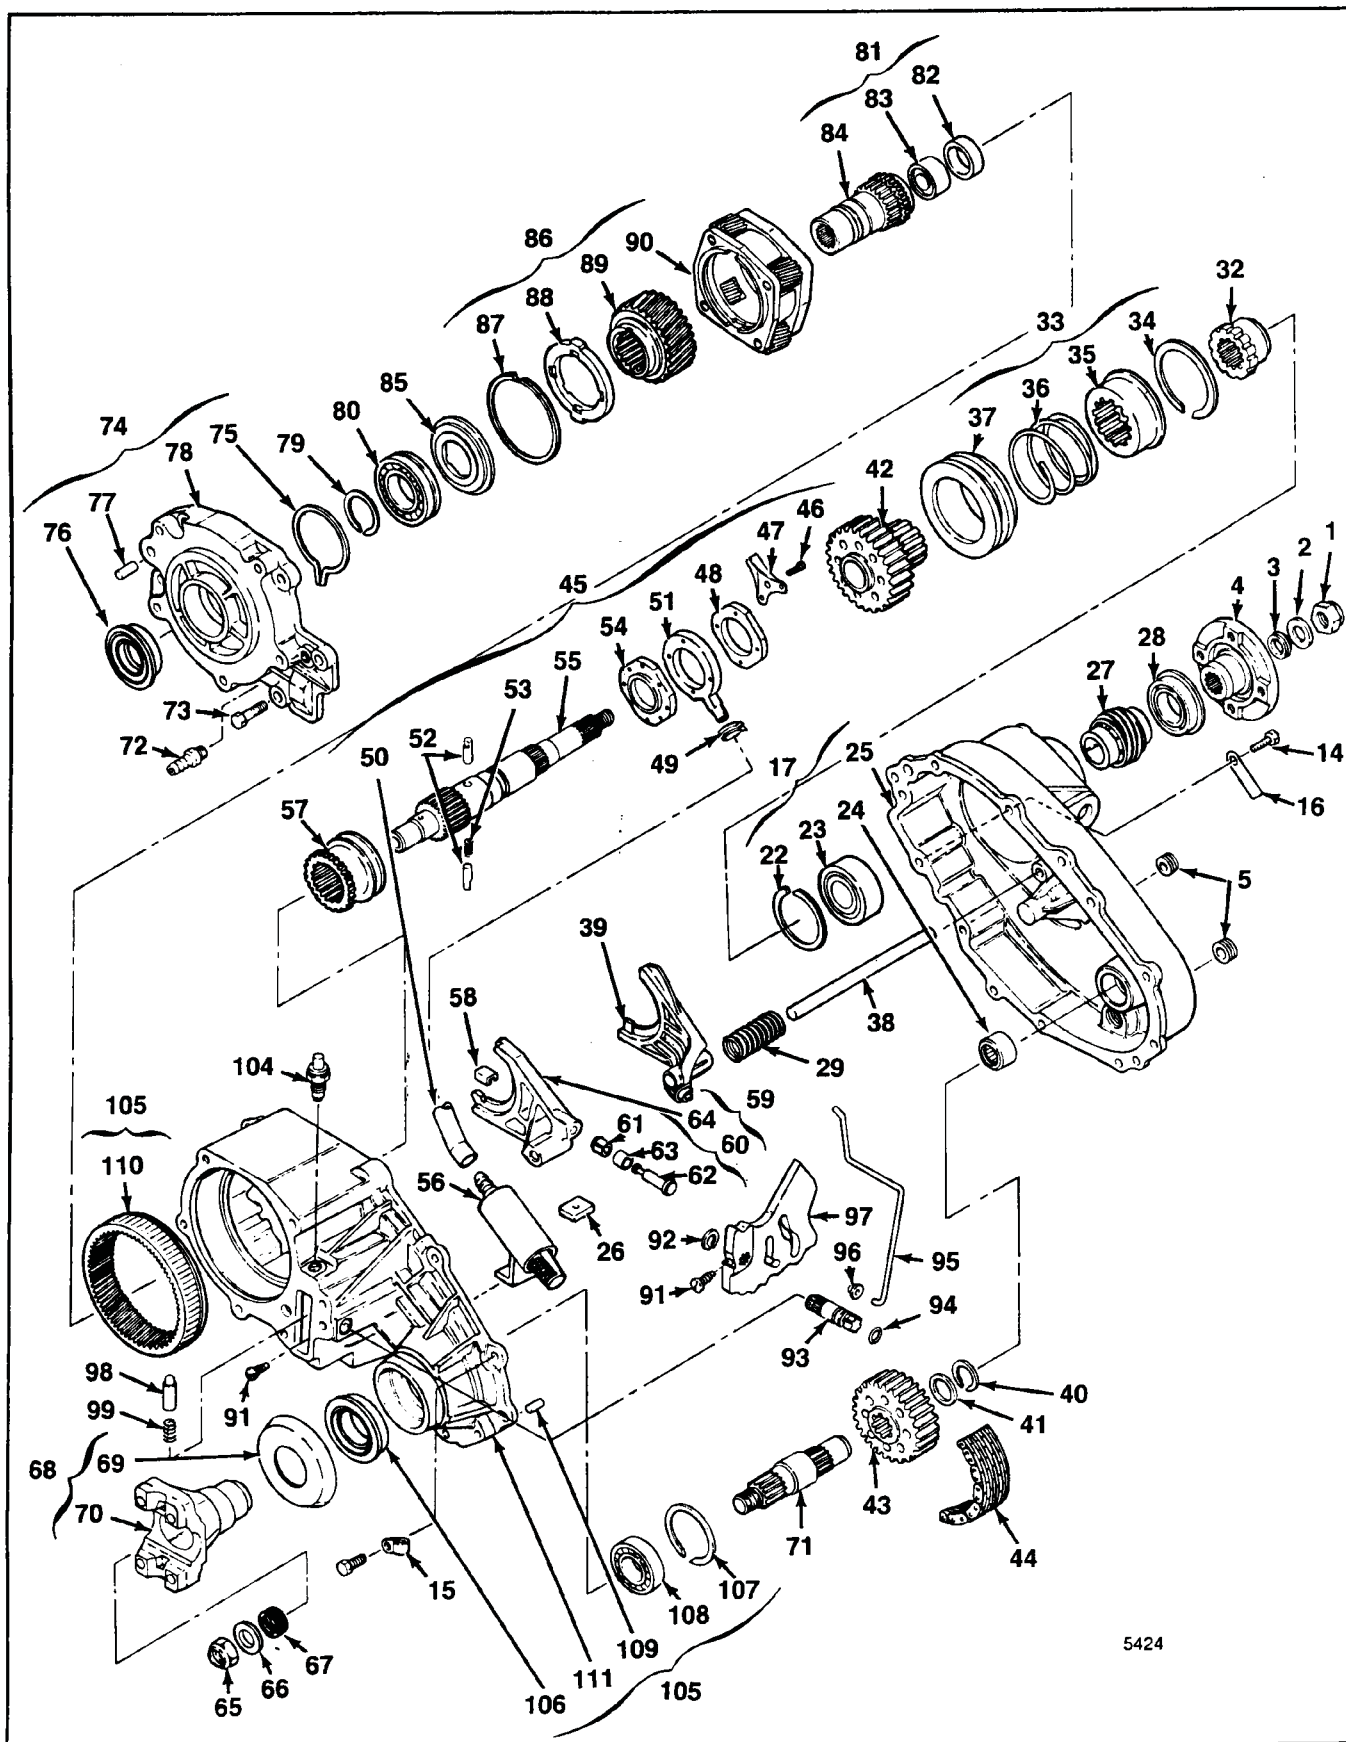

Figure P-1. Transfer Case Assembly, Mechanical Shift
in this column. Complete information on the identification tag (16, figure P-1 or P-2) should be included with all parts orders (see figure 1-1).
# **PARTS LIST FOR FIGURE P-1**
**PARTS LIST FOR FIGURE P-1 (CONT)**
### PARTS LIST FOR FIGURE P-1 (CONT)